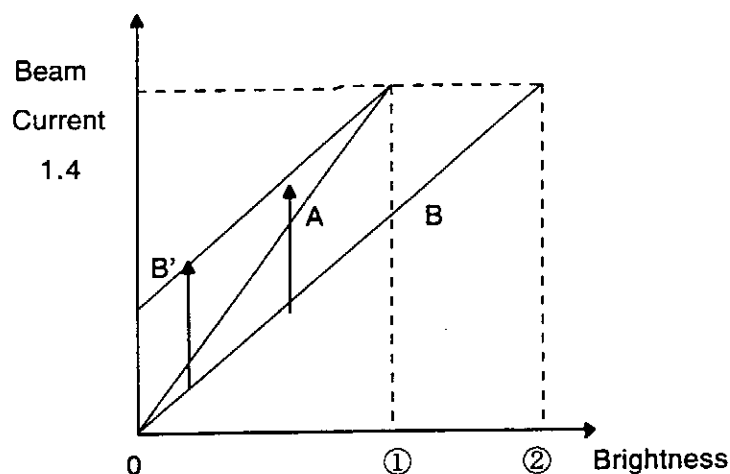

Figure-2
In case, A, B are two pieces of Cube like the Figure-2, ABL works at the point of ① in the light when the luminous efficiency of the set of A is bad even if both CRT begin to shine at the same time. On the other hand, as for B, ABL works at the point of ② which is lighter than A unit.